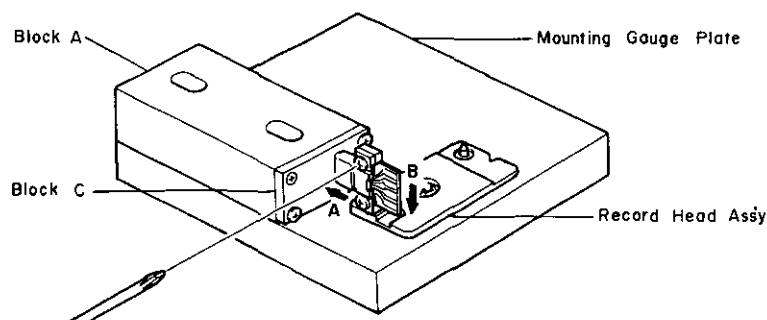

Fig. 4.23
- (5) Remove the Block B from the Mounting Gauge Plate.
- (6) As shown in Fig. 4.23, mount the R-8L record head assembly onto the Mounting Gauge Plate, then check the location of the R-8L record head surface. (If record head contacts to the Block C, loosen 2 pcs. of screws that assemble record head and record head plate, then place the R-8L record head assembly onto the Plate.)
- (7) Remove the R-8L record head assembly from the Mounting Gauge Plate.
- (8) Readjustment of Record Head Mounting Gauge M-9048 (DA09048A)
- (9) Remove the Block B from the Mounting Gauge Plate.
- (10) Mount the R-8L record head assembly onto the Mounting Gauge Plate.
- (11) As shown in the Fig. 4.23, loosen 2 pcs. of screws that assemble record head and record head plate. As the location of the Block A is secured by the item (8)-(c), push the record head to the directions A and B, then tighten 2 pcs. of screws.
- (12) Check to insure freedom from gap between the Block C and record head surface, then tighten the 2 pcs. of screws on the record head assembly with lock tight paint.
- (13) Remove the R-8L record head assembly from the Mounting Gauge Plate.
- (14) Assemble the record head assembly to the head mount base assembly.
- (15) Assemble the head mount base assembly to the mechanism assembly.
- (16) Check the record head stroke.
- If the above are inaccurate, items (1) through (16) will have to be repeated till satisfactory results are obtained.